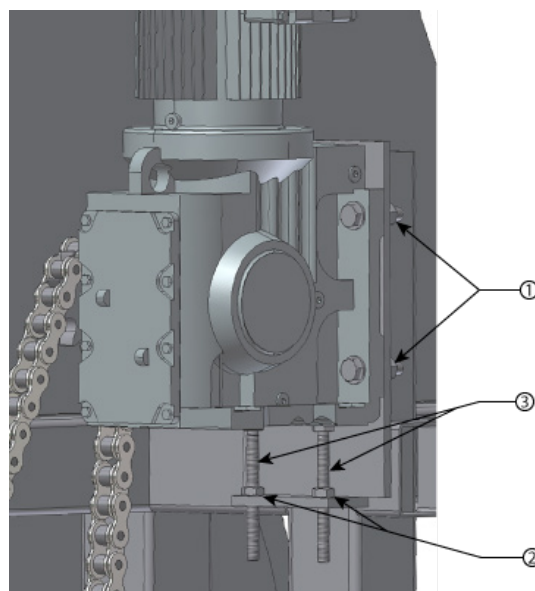
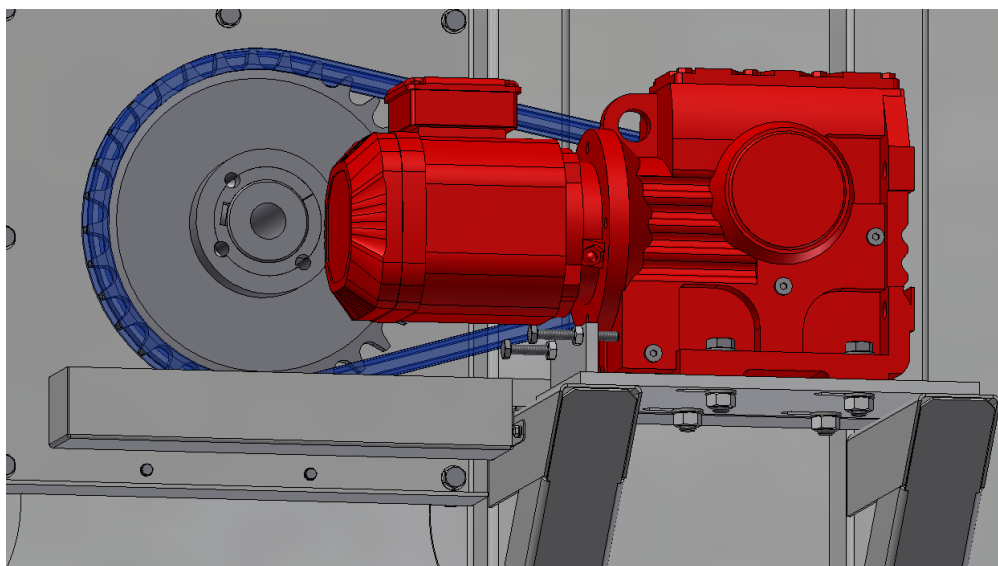

Figure 8.9 Gearbox, filter with stand
Figure 8.10 Gearbox, filter with tank
Drives with roller chains have steel chain wheels; Figure 8.9 shows a roller chain and chain wheel. The filter is powered by a worm gear motor and a chain.
1. Stop the filter (turn the main power switch to the OFF (0) position and lock it with a padlock).
2. Loosen the four nuts that hold the worm gear in place (see (1) in Figure 8.9/ Figure 8.10).
3. Loosen the two nuts (2) that lock the adjustment screws (3).
4. Adjust the two screws (3) so that the correct chain tension is attained (see section 8.5.2 Checking drive chain tension). So that the worm gear can be kept horizontal, the two screws should be adjusted one at a time and a little at a time. Use a spirit level to ensure that the worm gear is actually in the horizontally balanced position.
5. Tighten the four nuts (1).
6. Tighten the two nuts (2).
2. Loosen the four nuts that hold the worm gear in place. See (1) in Figure 8.9/ Figure 8.10.
3. Lower the worm gear using the nuts (2) in Figure 8.9/Figure 8.10.